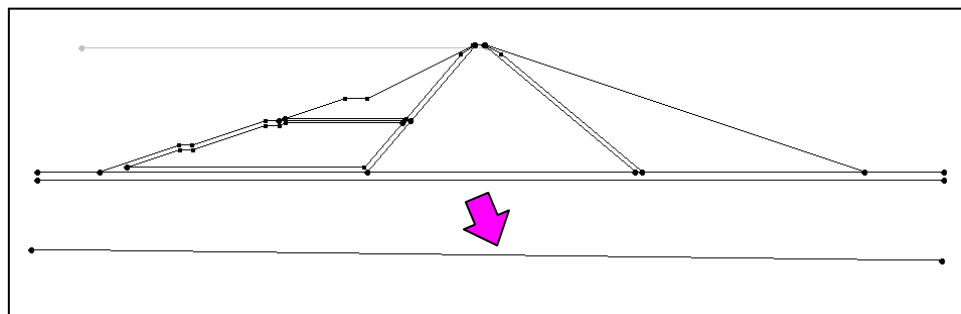

Figure 5 Drawing the bottom arc
2. Create a somewhat horizontal arc somewhere below the dam, as shown in Figure 5 below. Don't worry about making the line perfectly horizontal or the exact coordinates of the endpoints.